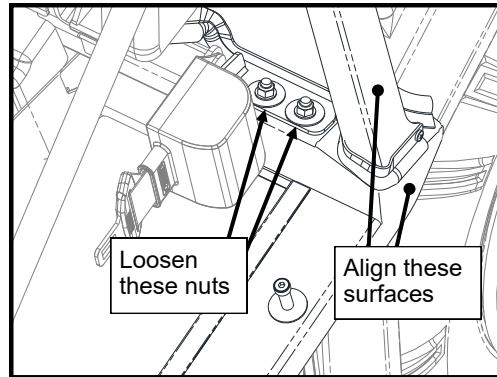

Figure 11.2: Rear Fender Adjustment
- 11.2 Loosen the (2) 5/16" nuts at the rear of each fender panel and shift the rear of the fender panel left or right to align the outer surface to the bottom of the lower rear panel (see Figure 11.2). Tighten the 5/16" nuts snug.